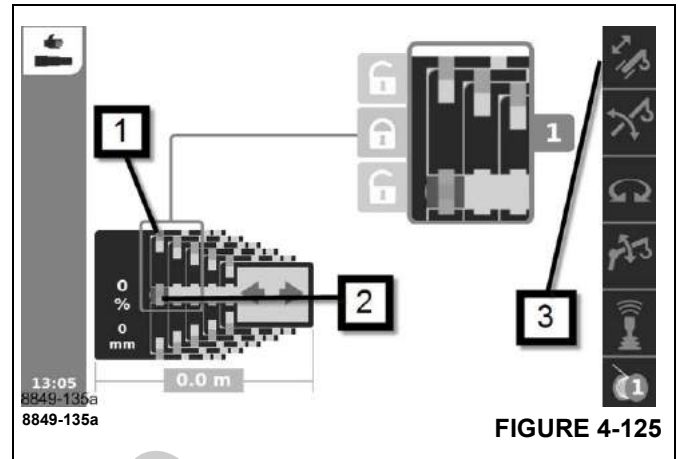

FIGURE 4-125
Telescoping mechanism on – symbol (3), (Figure 4-125) green